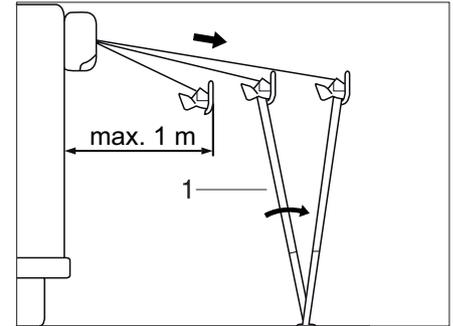

Fig. 12 Putting up the awning
- ▶ Fold out the support legs (Fig. 12,1) and set them on the ground.
- ▶ Remove the tent pegs of the support legs (Fig. 12,1).